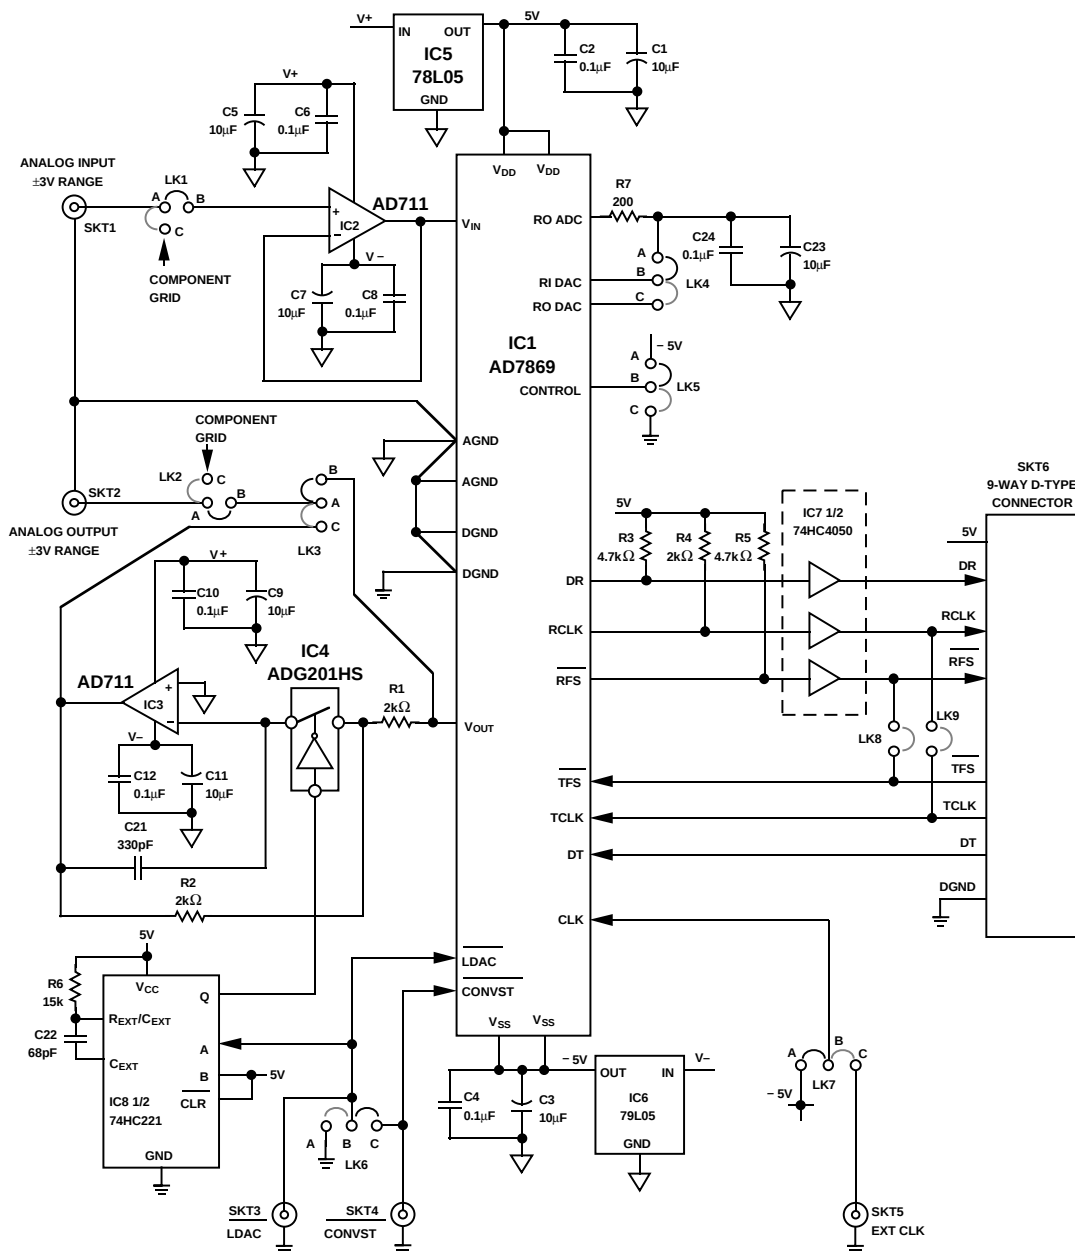
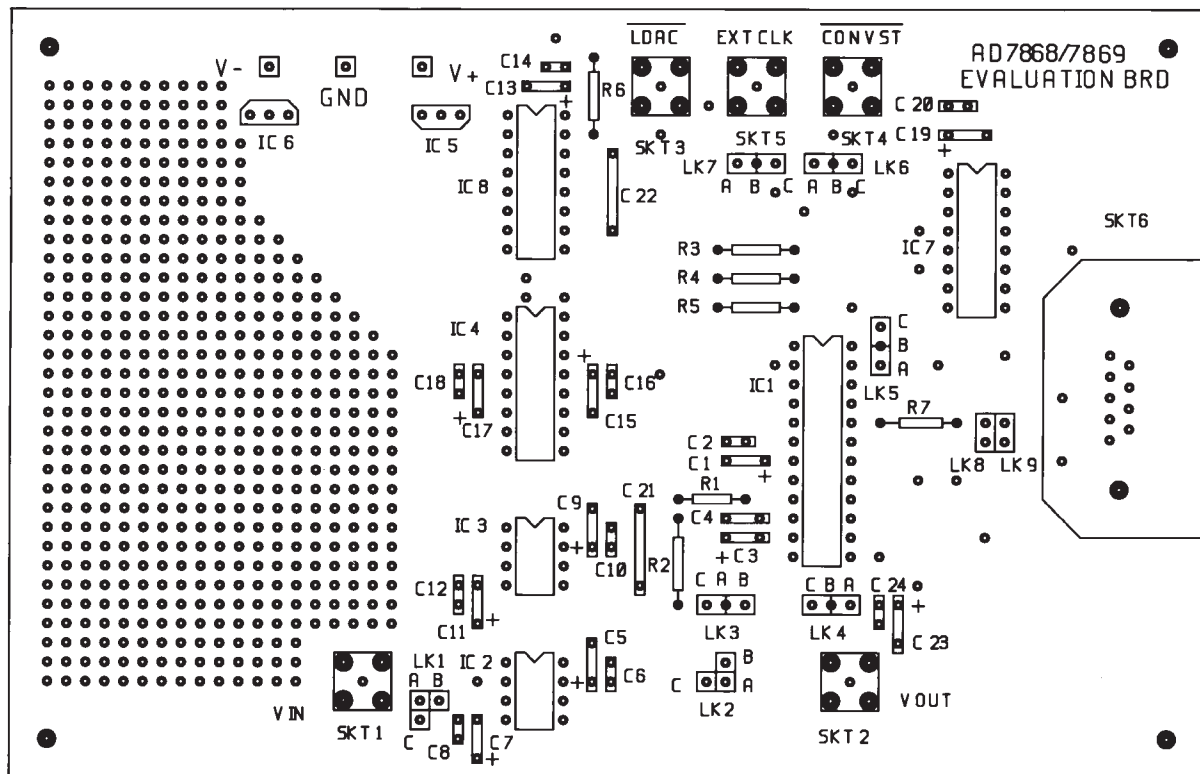

Figure 19. Input/Output Circuit Based on the AD7869
Figure 21. Silkscreen for the Circuit Diagram of Figure 19
Figure 19 shows an analog I/O board based on the AD7869. The corresponding printed circuit (PC) board layout and silkscreen are shown in Figures 21 to 23.
The PC board requires two analog power supplies and one 5 V digital supply. Connections to the analog supply are made directly to the PC board as shown on the silkscreen in Figure 21. The connections are labeled V+ and V−, and the range for both of these supplies is 12 V to 15 V. Connections to the 5 V digital supply are made through the D-type connector SKT6. The ± 5 V analog supply required by the AD7869 is generated from two voltage regulators on the V+ and V− supplies.